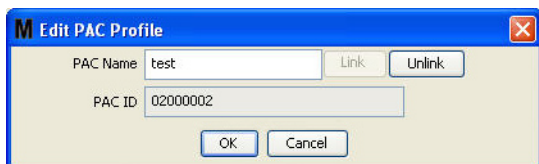

FIG. 117
- The Edit PAC Profile box shown in FIG. 117 displays. To change the PAC name, type a new name in the PAC Name box and click OK to close the screen and save the changes.